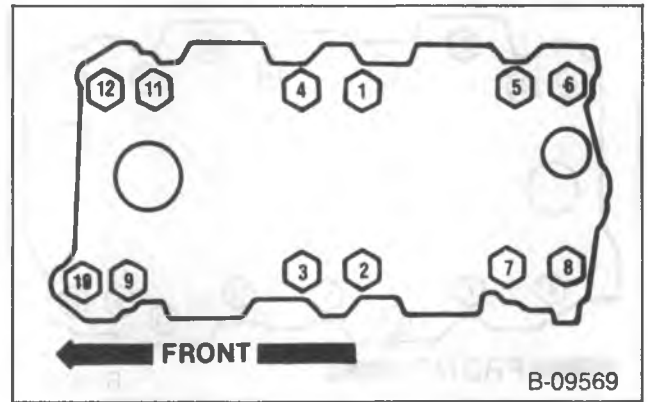

Figure 75—Intake Manifold Bolt Tightening Sequence (5.0L and 5.7L Engines)
- Bolts to 48 N·m (35 ft. lbs.). Use the tightening sequence shown in figure 75.